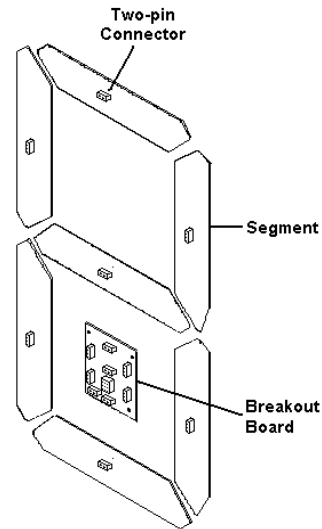

Figure 7: Segmented Digit Panel (rear view)
2. Disconnect all of the 2-pin and 9-pin power/signal connectors from the back of the breakout board. Release the connectors by squeezing together the locking tabs as you pull the connector free. Refer to **Figure 7**.